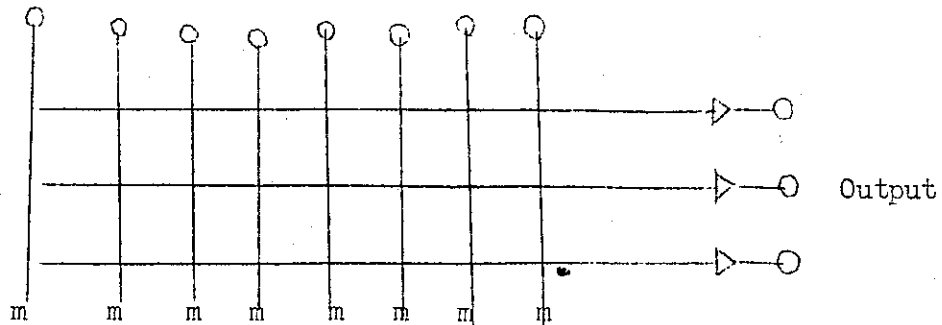

Fig. 1. System
(1) Requirements
- (c) The system shall be the one shown in Fig. 1.